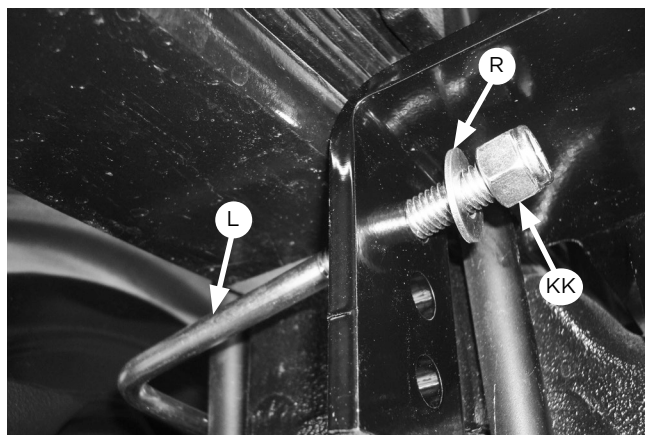

Fig. 28
3. Install the U-bolt (L) around the stock U-bolt/leaf spring assembly and insert through the topmost holes in the lower bracket main plates (Fig. 28). Cap with 3/8" flat washer (R) and 3/8" nylon lock nuts (KK). Snug bolts evenly, just enough to hold the lower bracket main plate flush against the stock U-bolts.